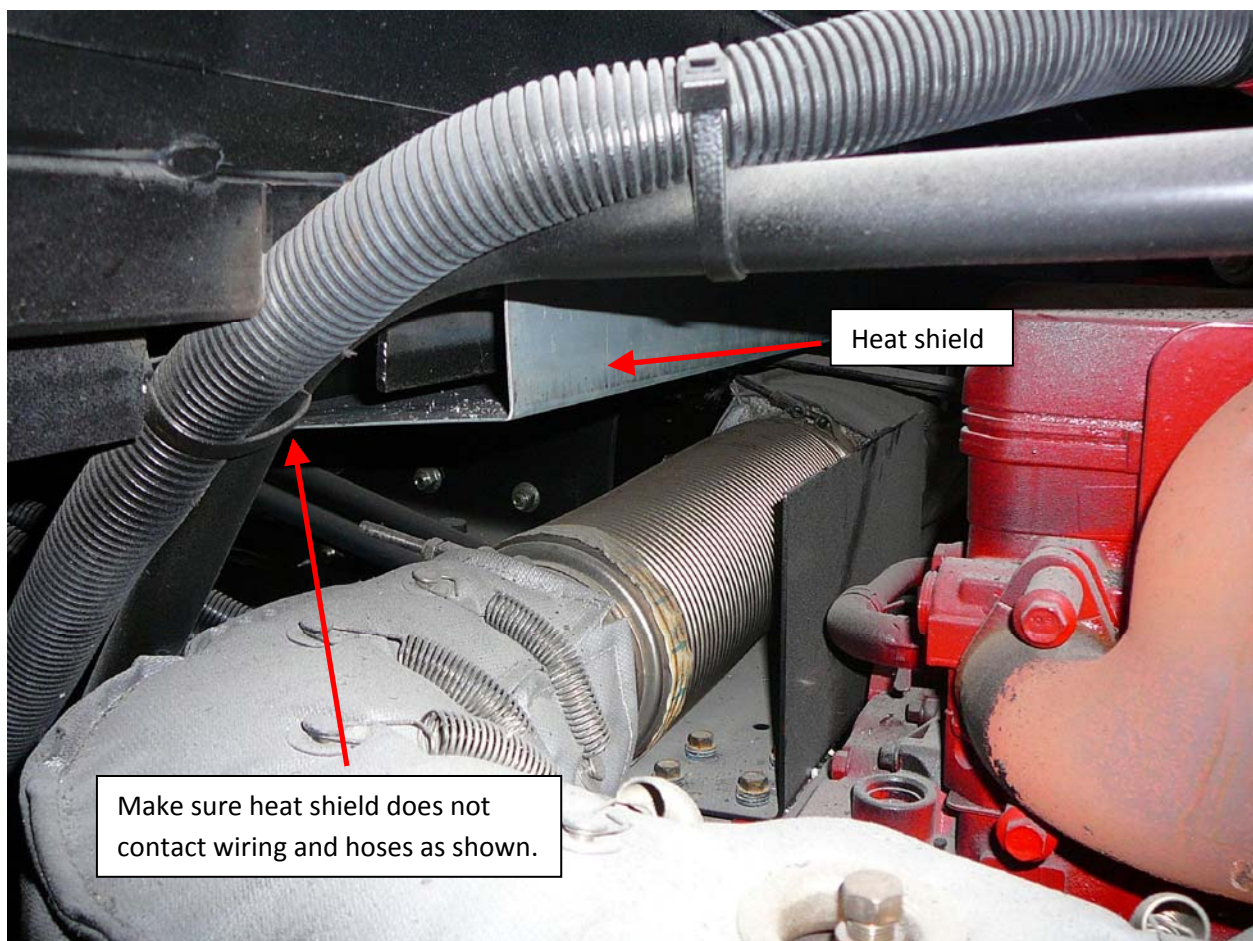

Figure 4: Check for contact / chaffing
**IMPORTANT:** Once installed, be certain the heat shield is not rubbing against or chaffing any surrounding wiring, hoses, or other items in the engine compartment (Figure 4). Contact with wiring, hoses, and other items will cause excessive wear and potential failures in those components. If the heat shield is properly positioned (over the exposed exhaust between the two existing heat blankets) and there is physical contact between the shield and any wiring or hoses in the engine compartment, reposition the wires or hoses and tie them back to prevent chaffing. Positioning the heat shield properly between the heat blankets and over the exposed exhaust is critical to this repair.